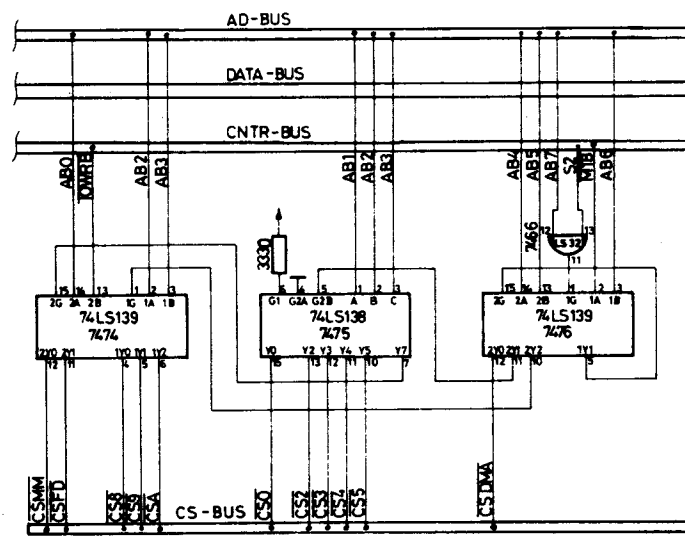

Figure 2.12 Circuit Diagram - I/O Decoder
Item 7476 is a dual 1 of 4 decoder. Providing that no DMA device is active and that there is no Interrupt Acknowledge Cycle in progress, active low states on AB6 and AB7 cause the 1Y1 output of item 7476 to be active low. This output enables the second half of item 7476 to decode AB4 and AB5, driving one of the three outputs 2Y0 to 2Y2 to active low. See figure 2.12